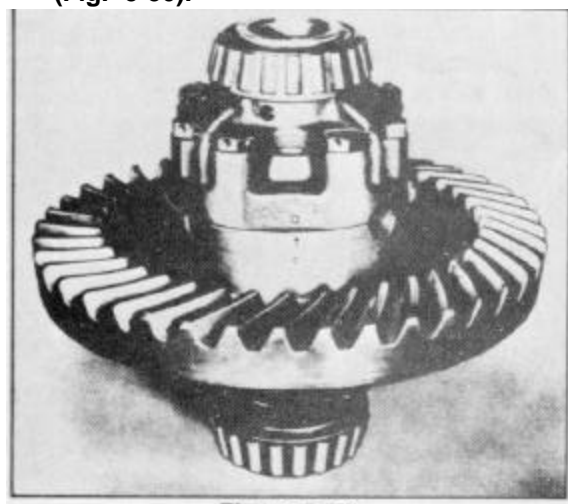

Figure 5-50
If original identification marks are not clear, mark the differential case halves with a punch or chisel for correct alignment on reassembly (Fig. 5-50).
1. Mark the mating halves of the differential case with a center punch so they can be reassembled in the original position when repairs or inspection is completed (Fig. 5-50).